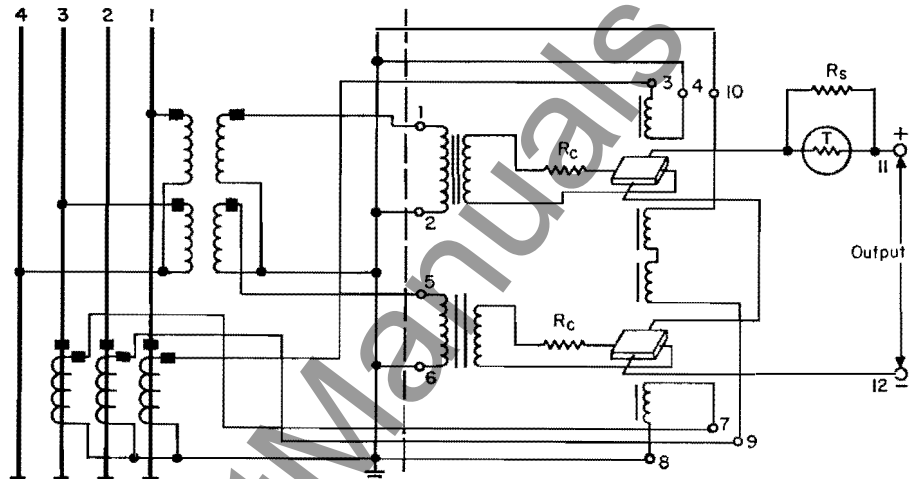

Figure 6: Internal and external wiring of 3-phase, 4-wire watt transducer.
**(c) Polyphase, three current-coil (2½ element):** This transducer has three current and two potential coils. The two Hall elements each have two current coils with one coil in each element being connected in series to form the third current coil. (See Figure 6). This transducer, theoretically, is accurate on balanced voltages only. However, electrical power systems or equipment will not tolerate a degree of unbalance which would cause errors outside the accuracy rating of the transducer. Therefore, there is no practical need for a three-element device. The error due to as much as 15% unbalance is in the order of 0.002 of reading; negligible in any commercial power measurement.